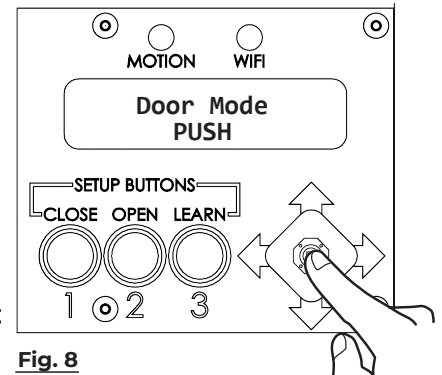

Fig. 8
2. Depending on the application, select PUSH or PULL by moving joystick LEFT or RIGHT. (Fig. 8)